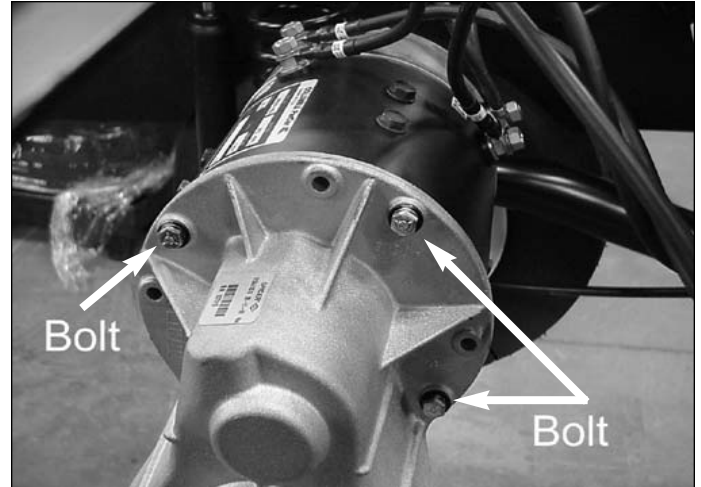

Figure 32 - Motor Installation
Place motor into vehicle and onto input shaft. Rotate to align bolt holes in motor, to axle as shown in Figure 32. Install three (3) bolts securing motor to rear axle/differential housing, while carefully supporting motor to prevent it from falling. Torque 3 bolts to 100 inch lb.